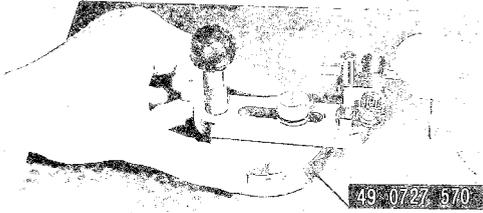

Fig. 9-11 ZERO setting
1. Install the dial indicator to the gauge body. Place the gauge body on the surface plate as shown in Fig. 9-11 and lock the dial indicator by the screw so